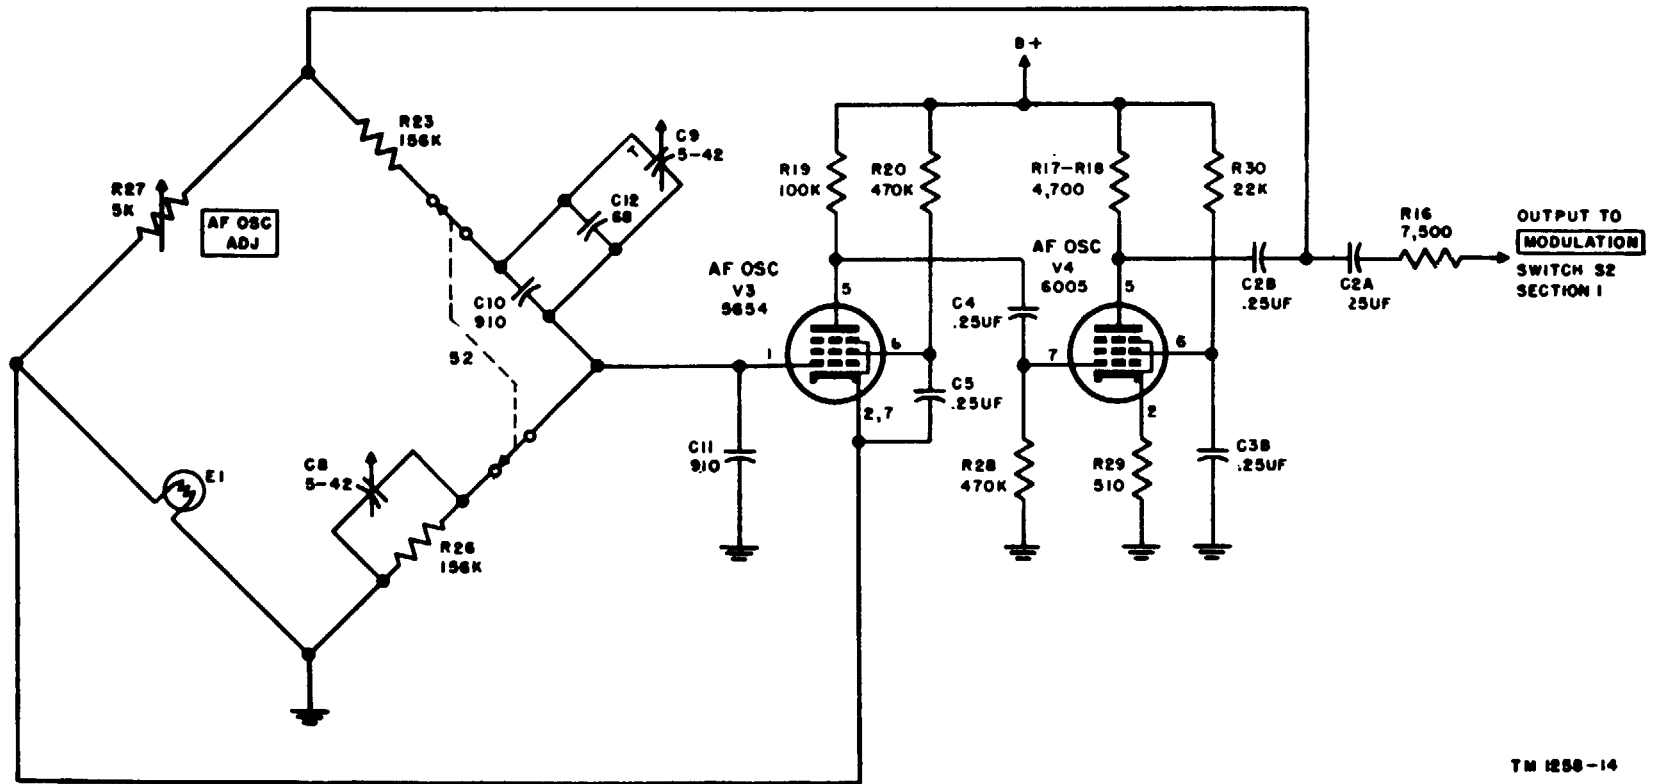

Figure 15. Audio-oscillator circuit, 1,000-cps operation.
a. The audio-oscillator circuit (fig. 15) is basically a wide-band resistance-coupled audio amplifier with a resistance-capacitance regenerative feedback circuit called a Wien bridge. The circuit operates in the following manner: If the positive half-cycle of a 1,000-cps audio signal appears at the grid of V3, the signal is amplified and inverted by V3. The negative signal, developed across plate resistor R19, is applied through C4 across R28 to the grid of pentode amplifier V4. The signal again is amplified and inverted and the positive signal, developed across plate resistors R17 and R18, is coupled by C2B to the grid of V3 through R23, C9, C10, and C12 in parallel, and section 2 of switch S2. Since the original signal at the grid of V3 is positive, the feed-back voltage is of the proper polarity to sustain oscillations. The positive feed-back bridge elements R26 with C8 and C11, and R23 with C9, C10, and C12, are frequency sensitive and attenuate all except the desired feed-back frequencies. The oscillator will oscillate at the frequency determined by the bridge elements. The positive output of V4 also is applied through C2B across R27 and E1. Since E1 serves as the cathode resistor of V3, the voltage appearing across E1 is degenerative or out of phase. If the degenerative voltage applied to the cathode is greater than that applied to the grid, the oscillator will not function. By adjusting R27, the proper amount of
b. The frequency determining elements of the Wien bridge audio oscillator peculiar to the 1000 ~ position of MODULATION switch S2 are capacitor C8 and resistor R26 in parallel and resistor R23 as shown in figure 15. One of the four legs of the Wien bridge oscillator is made up of C8, R26, and C11 in parallel. The second leg is made by resistor R23 in series with paralleled capacitors C9, C10, and C12. The third and fourth legs of the bridge are made by R27 and ballast lamp E1. Trimmer capacitor C8 is used for the exact adjustment of 1,000 cps. The overall frequency range of the oscillator is adjusted by C9 to include 1,000 cps and 20,000 cps within its limits. The frequency determining elements peculiar to the 1600 ~ position of MODULATION switch S2, are C7 and R25 (fig. 44) in parallel and R22. In the 20KC position, the frequency determining elements are C6 and R.24 in parallel and resistor R21. The amplitude of the audio oscillations is maintained at a constant level by degenerative feedback controlled by the action of E1. As the amplitude of audio oscillations increases, the resistance of ballast lamp E1 increases proportionately. As a result, the amount of degenerative feedback developed across E1 is increased, and the amplitude of oscillations is decreased. Additional degenerative